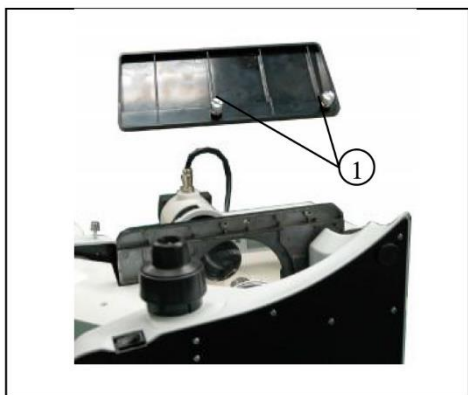

Figure 8
2.2.5. Installing the stage lengthen splint and the mechanical ruler (Figure 8)